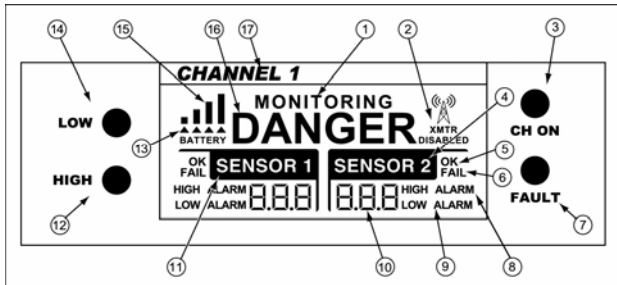

Figure 3. Display Elements
- Figure 3 and Table 4 describe the controller's Liquid Crystal Display (LCD).